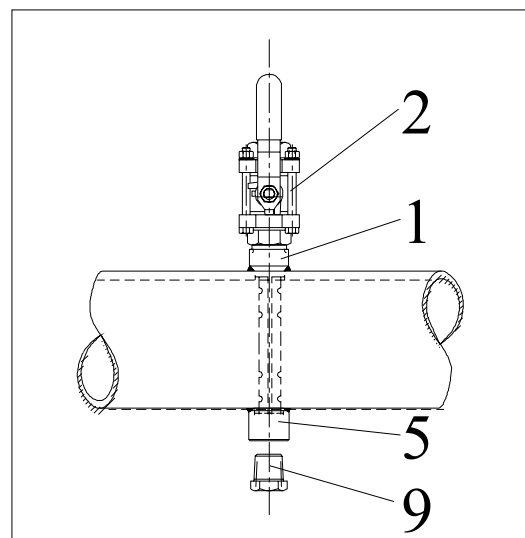

Fig. 13a: Installation hardware and sensor end support
The design of the ITABAR Sensor of the type FTM-26/36 is almost identical to the type FTM-25/35. The only difference is the sensor end support (with sealing plug or closed design (see Figs. 13a and 13b) which permits higher stream velocities in the pipe.
2. Tack the weld socket {1} onto the pipe leaving approx. 2 mm clearance. Align the socket (e.g. with a bolt or pin) so that it is exactly perpendicular to the pipe axis (Fig. 13a/b).
9. For sensor end supports with sealing plug only: Seal the thread of the sealing plug {9} with a suitable sealing compound (e.g. PTFE tape). Screw the sealing plug into the sensor end support and tighten it firmly (Fig. 13a).